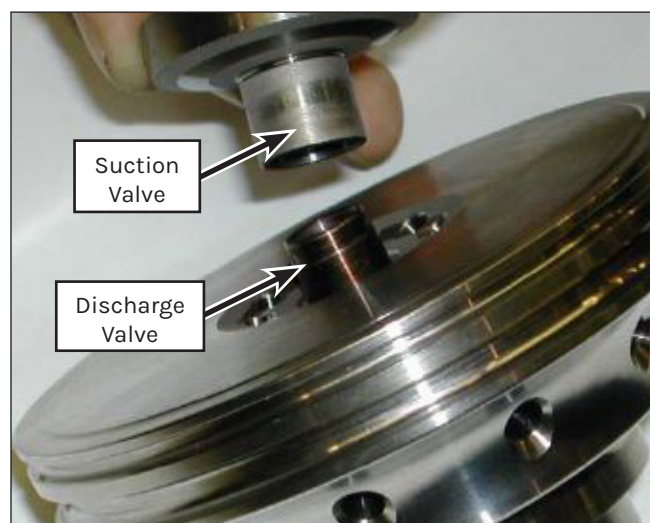

Figure 123: Valve Removal.
7. Remove the suction and discharge valves (Figure 123).